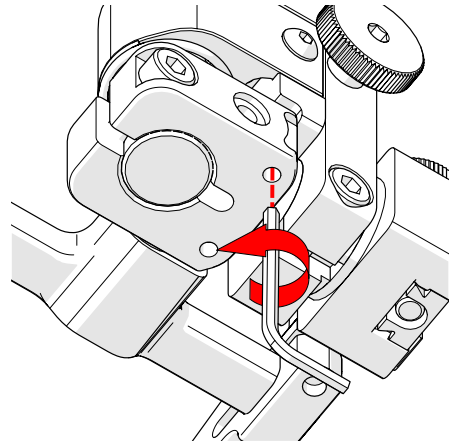

Fig. 110 - Lower 90° stop post
7. Locate the recessed M3 screw on the bottom of the probe holder. Unscrew the stop post using a 1.5 mm hex wrench (Fig. 42) until it has cleared all obstructions. Do not remove stop post (Fig. 110).